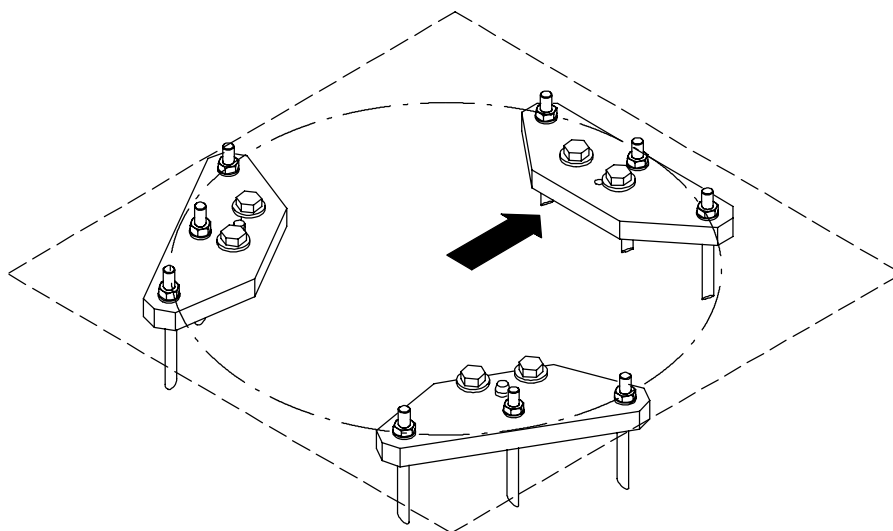
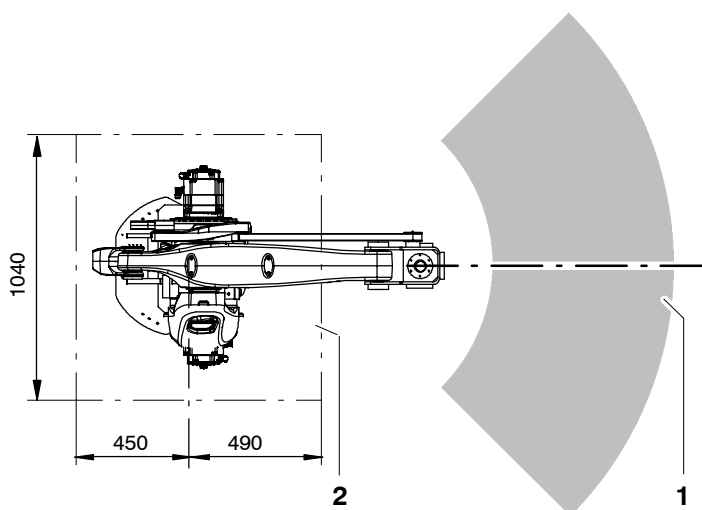

Fig. 34 Mounting base with centering
Fig. 35 Orientation of working envelope and concrete foundation
Fig. 34 shows the components of this mounting base. In Fig. 35 the dimensions of the concrete base and the orientation to the working envelope are depicted.
- (3) Mark the position of the manipulator in relation to the working envelope (Fig. 35/1) on the concrete foundation (2) and bring the manipulator to the installation position.
- (4) Align the manipulator horizontally.
The intended installation position of the manipulator, i.e. the correct orientation in relation to the working envelope (Fig. 35/1), must be taken into account when drilling the holes.